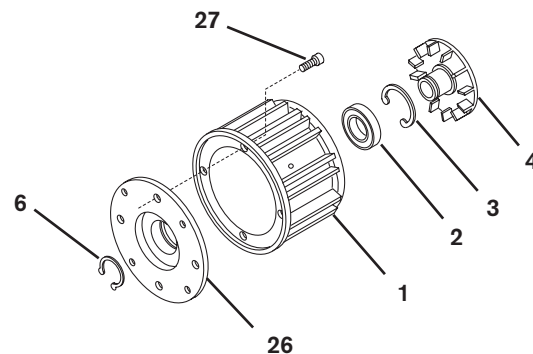

FIGURE 11
- Remove the four Socket Head Cap Screws (Item 27) (See Figure 11).
- Remove the Female Pilot (Item 26) from the Housing (Item 1) (See Figure 11).
- Remove the Retaining Ring (Item 6) and press the Drive Disc (Item 4) out of Female Pilot (Item 26) (See Figure 11).
- Remove the Retaining Ring (Item 3) (See Figure 11).
- Fully supporting the Female Pilot (Item 26), press the old Ball Bearing (Item 2) out of the Female Pilot (See Figure 11).
7. Clean the bearing bore of the Female Pilot (Item 26) with fresh safety solvent, making sure all old Loctite® residue is removed (See Figure 11).
8. Apply an adequate amount of Loctite® 680 to evenly coat the outer race of the new Ball Bearing (Item 2) (See Figure 11).
9. Supporting the Female Pilot (Item 26) and pressing on the outer race of the new Ball Bearing (Item 2), press the new Ball Bearing into the Female Pilot (See Figure 11).
10. Reinstall the Retaining Ring (Item 3) (See Figure 11).
11. Support the inner race of the new Ball Bearing (Item 2) and press the Drive Disc (Item 4) into the new Ball Bearing and Female Pilot (Item 26) (See Figure 11).
12. Reinstall the Retaining Ring (Item 6) (See Figure 11).
13. Using the four Socket Head Cap Screws (Item 27), secure the Female Pilot (Item 26) to the Housing (Item 1) (See Figure 11); then, tighten the Socket Head Cap Screws (Item 27) to 126 In. Lbs. [14.24 N m] torque.